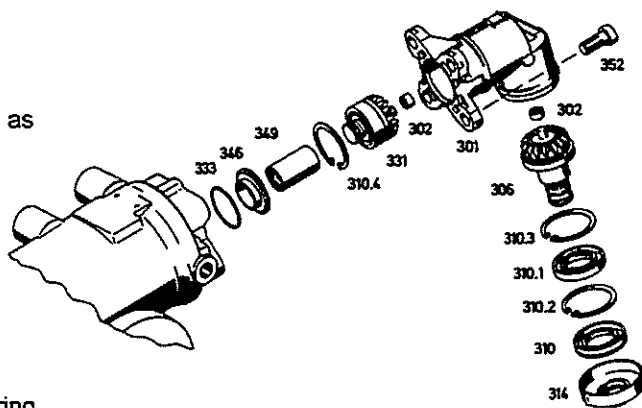

Fig.49
Press needle sleeves (302) in as far as possible with tool [36]. Install bevel gear (306) (**Fig.49**).
19.3.2 Angular gear versions with coupling sleeve (349)
Fit dust seal (314) on bevel gear (306) (*see Fig.49*).